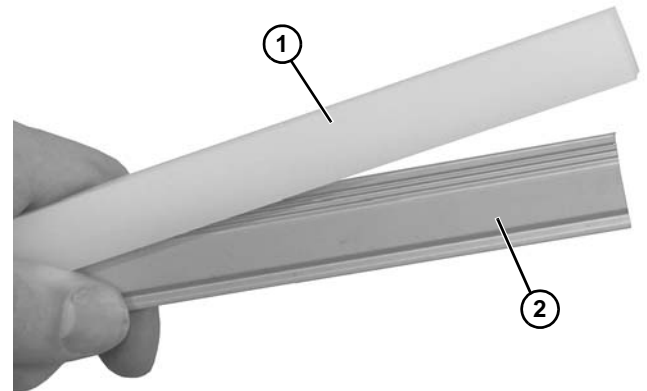

**Figure 52**
4. Install corner guide (**Figure 52, item 1**) to conveyor tie plate (**Figure 52, item 2**) with spacer (**Figure 52, item 3**) and two flat head screws (**Figure 52, item 4**).